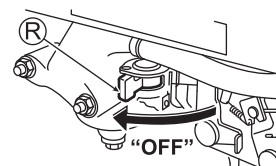

Fig. 16
3. Set the fuel cock (R) to "OFF". (See Fig. 16)